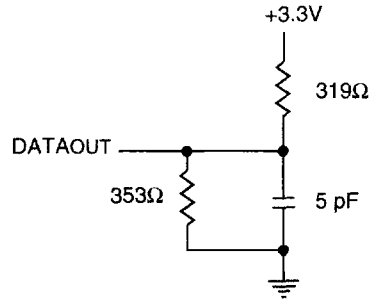

Figure 2. Output Load Equivalent
5. The parameter is tested with  $CL = 5 \text{ pF}$  as shown in Figure 2. Transition is measured  $\pm 200 \text{ mV}$  from steady state voltage.